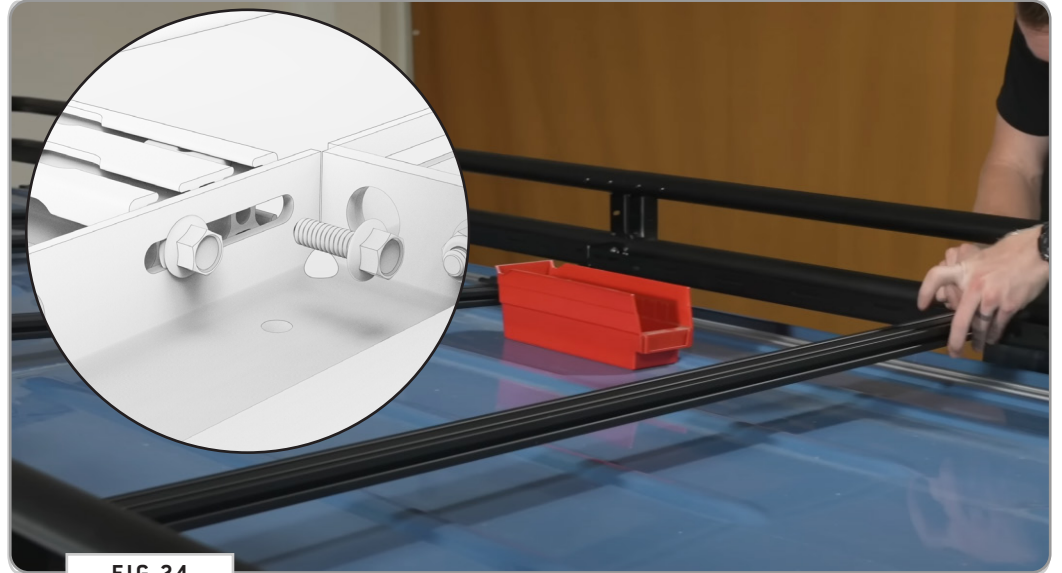

FIG 24
10.1 Attach Crossbars: Using (4ea) 1/4-20 Flanged Hex Bolts with Loctite (FIG 24), attach Crossbars to the rack in the locations shown in FIG 25. Be sure to measure both sides to ensure that the crossbars are square.